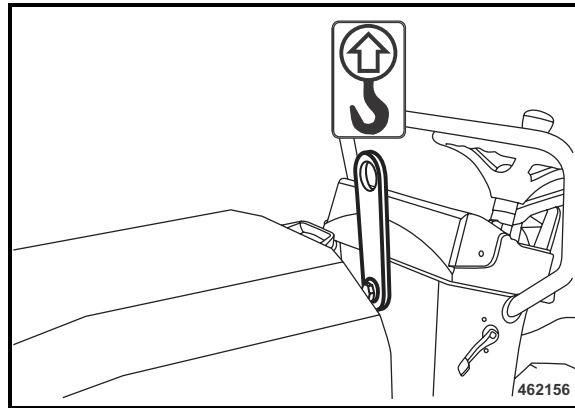

Fig. 86
- Lift up the machine by the central lifting device (Fig. 86) so that it is just above the ground.